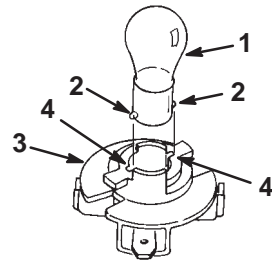

Figure 32
9. Insert and rotate the bulb counterclockwise until it stops (approx. 1/4 turn), and remove the bulb from the bulb holder (Fig. 32).
2. Insert the base into the holder (Fig. 32).